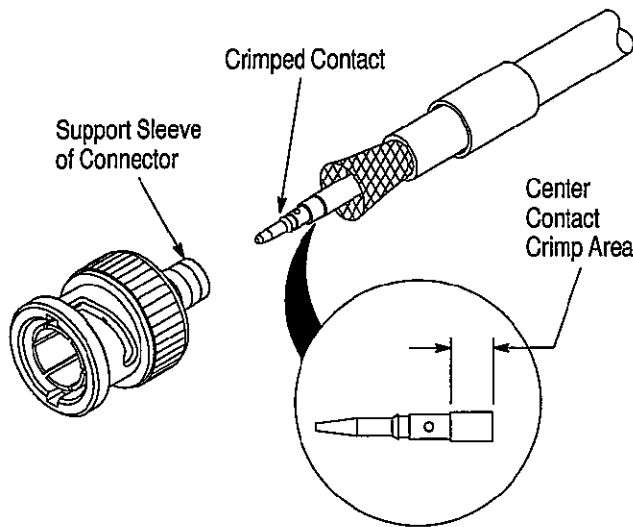

Figure 4
3. Using the recommended crimping tool (with appropriate die assembly), crimp the center contact, as shown in Figure 4.